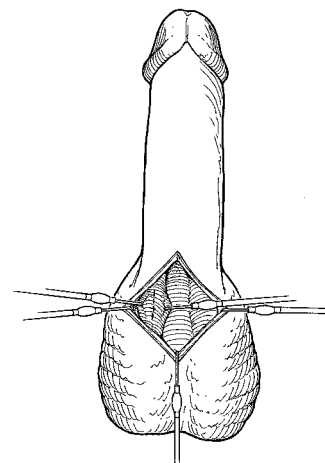

Figure 4-3. Penoscrotal: Retract Corpus Spongiosum
3. For the penoscrotal approach, laterally retract the corpus spongiosum to avoid damaging the urethra (**Figure 4-3**).